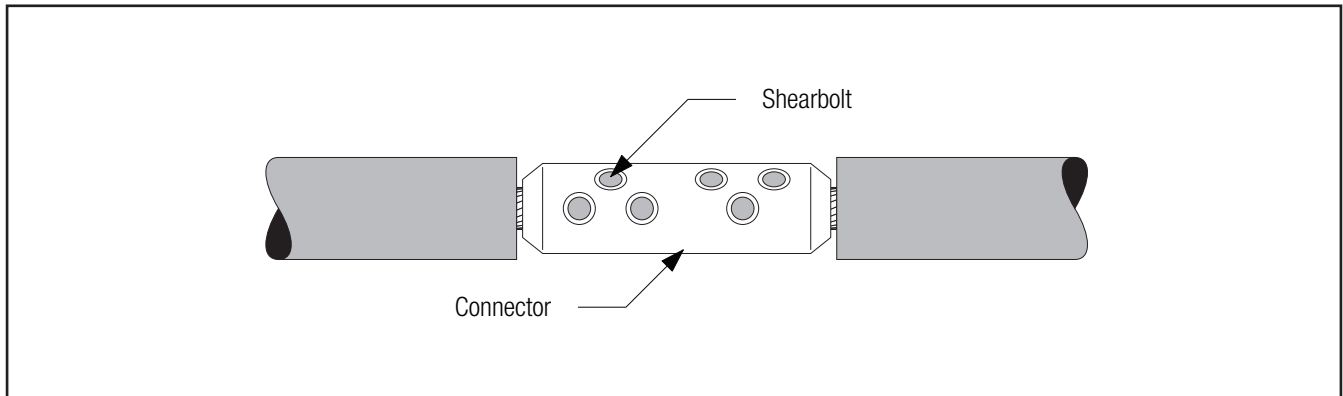

Figure 8
- 3.2 Install 3M Shearbolt Connector QCI 350-750 or QCI 500-1000 according to the instructions included with the connector (*Figure 8*).